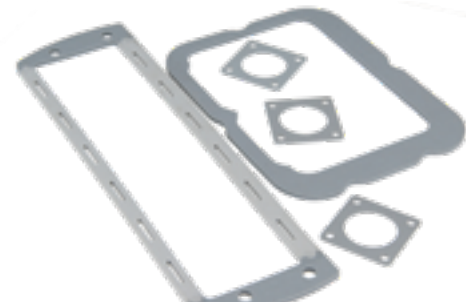

Figure 57: Conductive rubber gaskets can be cut in any shape according to customer drawing
- 57 Watertight EMI gaskets in any shape** can be cut out of sheets of material like conductive rubber, or multi-shield with small conductive wires in the material. They have a compression of 10-15%. (Fig. 57)